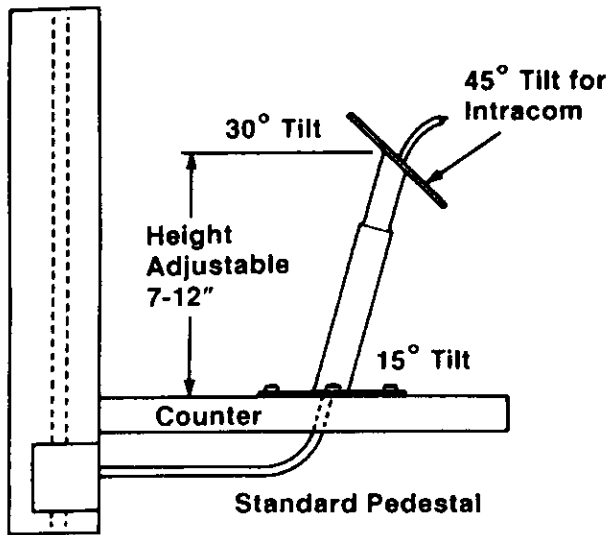

Figure 3 - Table Mount, Minimum Extension
Figures 3 through 9 on the following pages show different pedestal mount configurations and mounting bracket details. Your installation may or may not require a pedestal mount.
3. If the D-120 is to be pedestal-mounted, refer to figures 3 - 7 and install the pedestal mount as required.